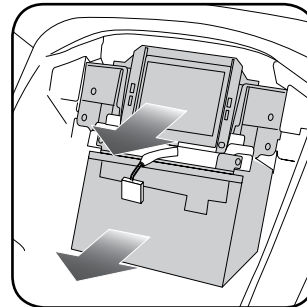

Fig. 1.5
5. Remove both the screen assembly and the radio body, disconnecting the plugs in the process. (Fig. 1.5)